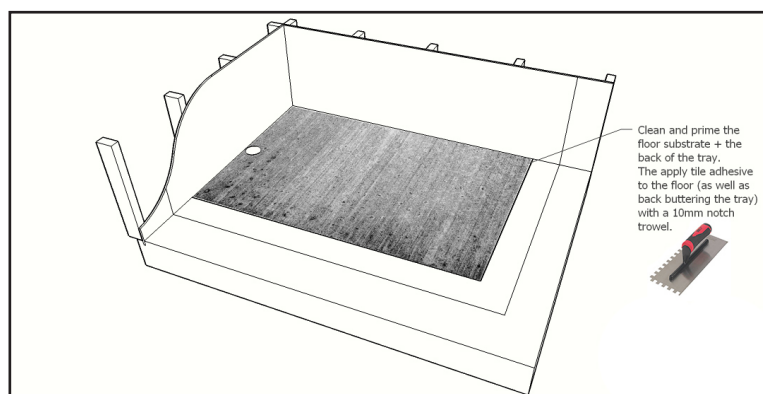

Fig. 4.2: Adhesion of the base using a supplier recommended cement based, polymer modified adhesive.
b) Bed the Tile tray using a cement based, polymer fortified adhesive. Ensure to both notch and back butter. If the floor is not level, use extra adhesive or levelling compound to compensate for variation. (See Fig. 4.2)